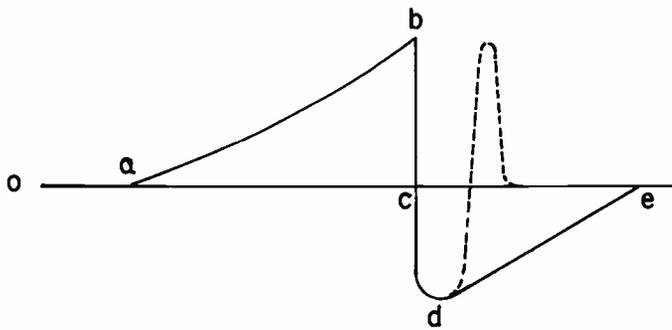
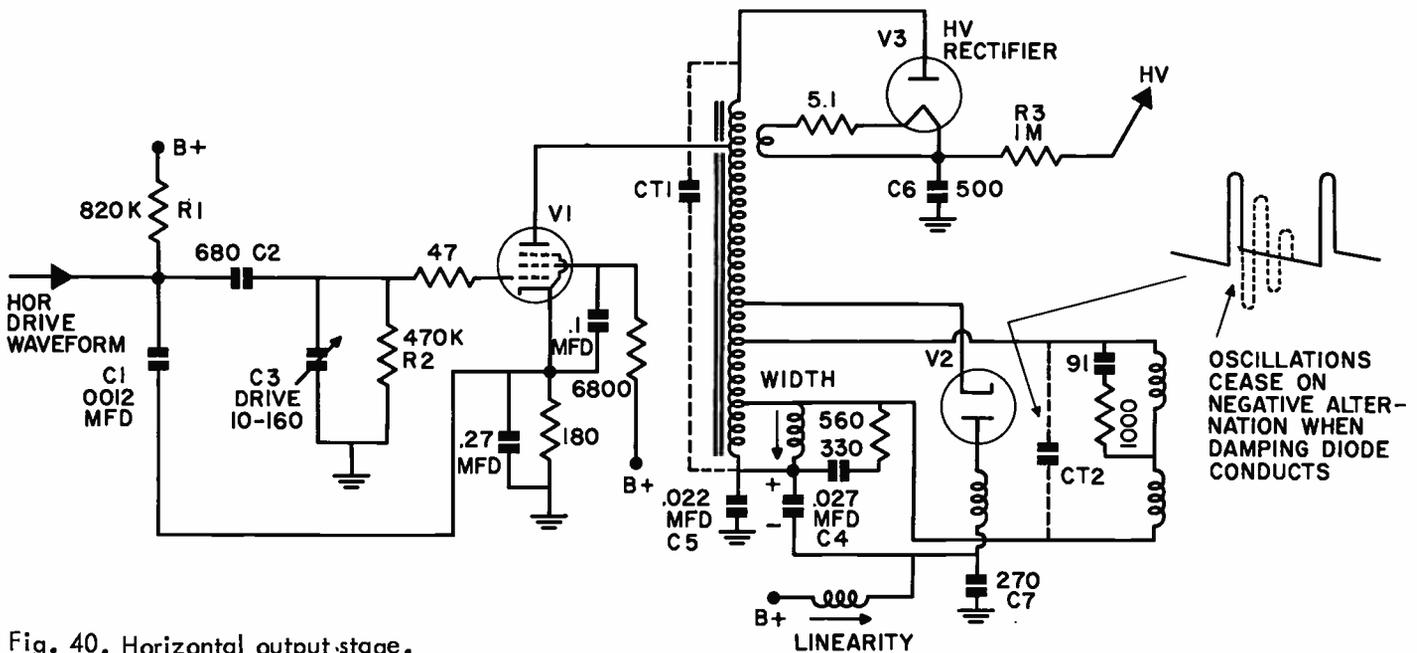
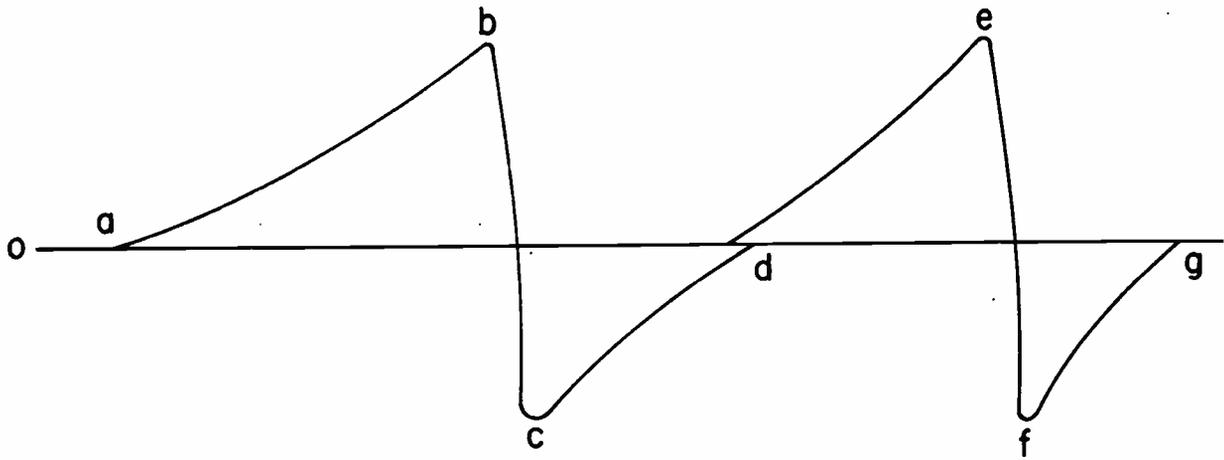
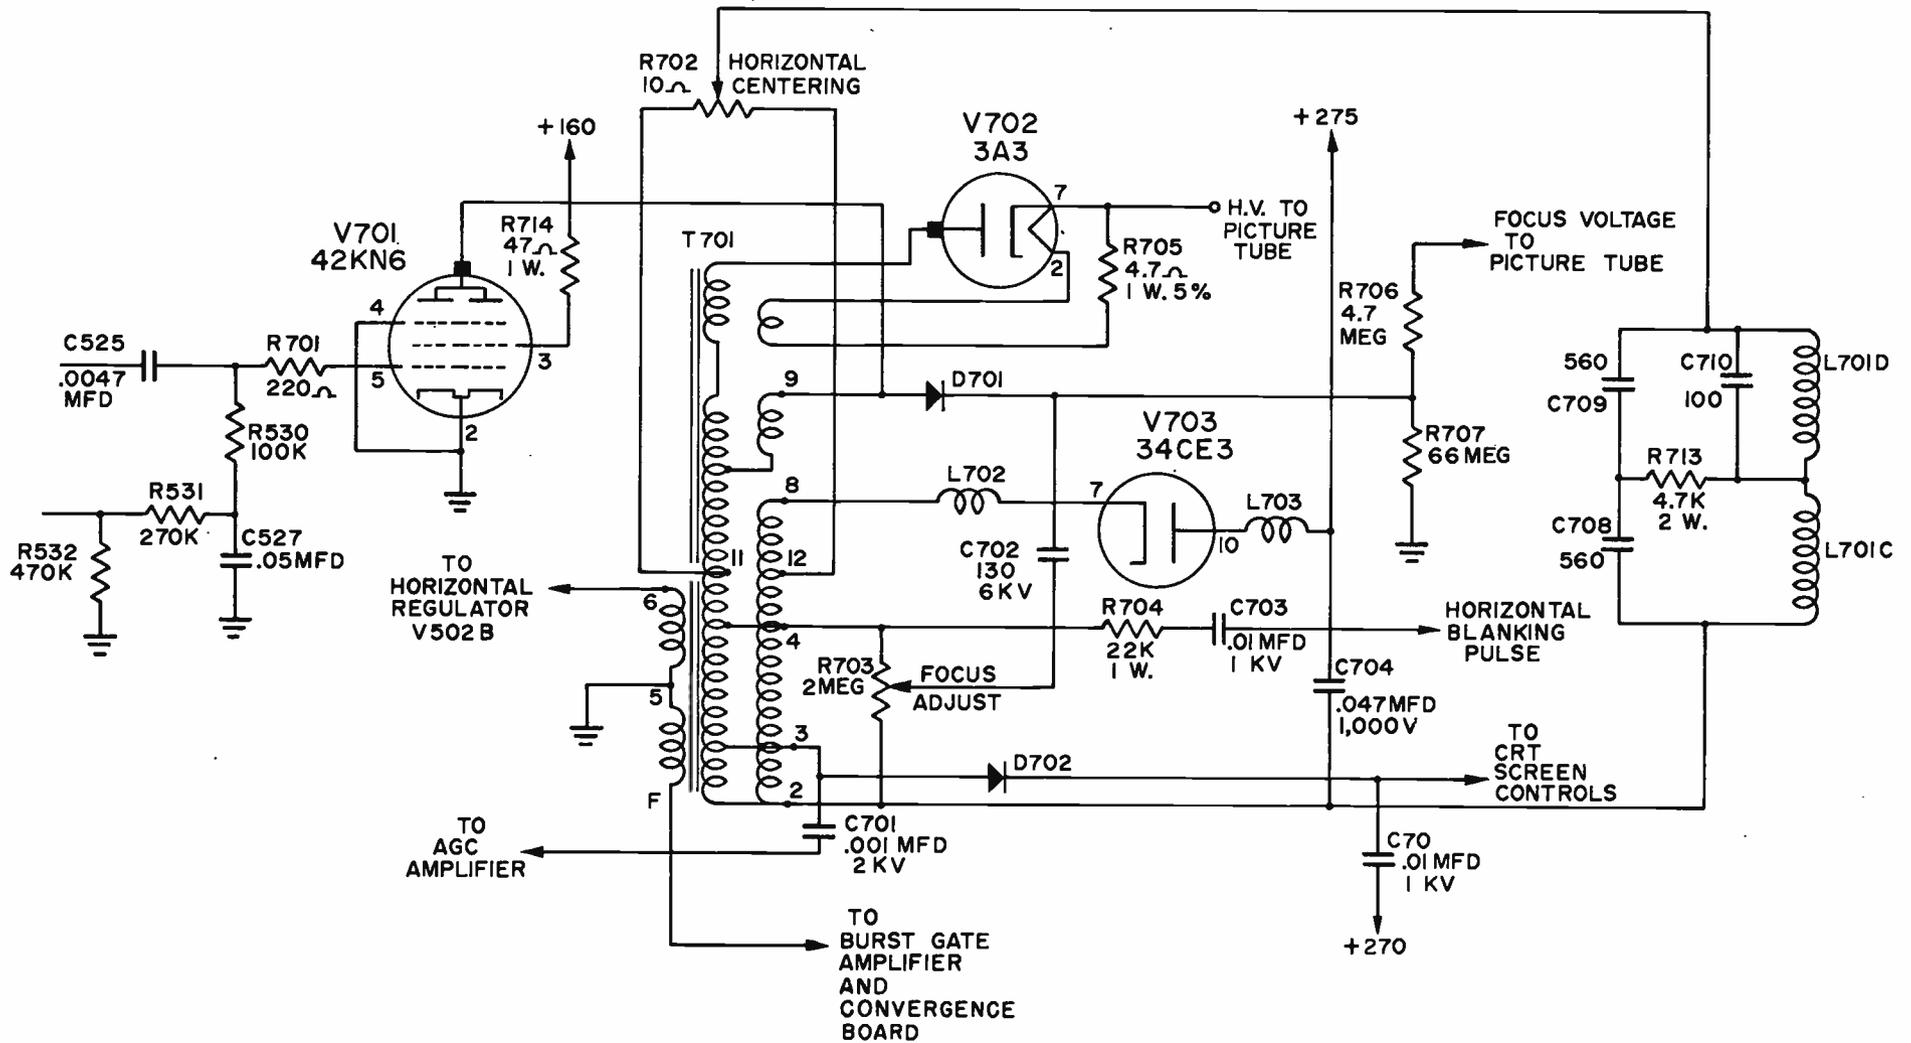

Fig. 39. Damper stage action.
Fig. 40. Horizontal output stage.
Fig. 41. Current waveform in the deflection circuit.
Fig. 42. The horizontal output, damper, and high-voltage rectifier stages.
The waveform shown in Fig. 39 is an example of what happens. The curve from a to b represents the current build up in the deflection coils that move the electron beam from the center of the tube to the right edge. When the electron beam reaches the right edge the current will be at point b on the curve. At this instant the current at the output stage is cut off, and the deflection circuit begins to oscillate and goes through one half cycle from b to d. If allowed to continue to oscillate the current would go through the waveform represented by the dashed line. However, at point d we damp out the oscillation and allow the current to slowly decay from point d to point e. This moves the electron beam at a linear rate from the left side of the screen to the center of the picture tube. With this brief explanation of what we mean by damping, let us look at the horizontal output stage shown in Fig. 40. **Provide Linear Sweep.**
In the schematic diagram in Fig. 40, we have shown the horizontal output tube V_1 , the damper stage V_2 , and the high-voltage rectifier V_3 . These three stages function together to provide a linear sweep to move the electron beam linearly from the left side to the right side of the picture tube and also to provide the high voltage required to drive the picture tube.
In Fig. 40, the input signal from the oscillator causes the current to V_1 to increase. The increase in current causes the electron beam to move from the center of the tube to the right edge. This is represented by the curve shown from a to b in Fig. 41.
The waveform shown in Fig. 41 is a current waveform. The deflection coils are primarily inductive and therefore the voltage across the two coils will lead the current by 90° . Thus, when the current reaches point c, which is its maximum negative value, the polarity of the voltage across the deflection coils will be such that the plate of the damper tube starts to go positive with respect to the cathode. In other words, the voltage waveform will be 90° ahead of the current waveform and even though the current is at its maximum negative value, the voltage will be at zero and starting to go positive. As a result, the damper begins to conduct, loading the circuit and producing a current change through the deflection coils shown from c to d in Fig. 41. By the time the current reaches point d, which is zero current, the output stage begins to conduct again, and once again the current builds from d to e.
rectifier circuit is shown in Fig. 42. This is the horizontal output stage for a color TV receiver. Notice that at first glance, from the schematic diagram, it is not too different from the circuit shown in Fig. 40.
Before leaving this circuit, notice the similarities and differences between the circuits shown in Fig. 42 and 43. They both accomplish the same thing. Insofar as the output stage, deflection coils and high-voltage rectifier circuits are concerned they are essentially the same. However, in one set we have a solid focus rectifier and in the other we have a vacuum-tube rectifier. In one circuit we regulate the high voltage at the output of the high-voltage power supply and in the other we regulate the high voltage by regulating the current through the horizontal output tube.
- (ac) In the color horizontal output circuit shown in Fig. 42, how many electron beams are swept by the deflection coils?